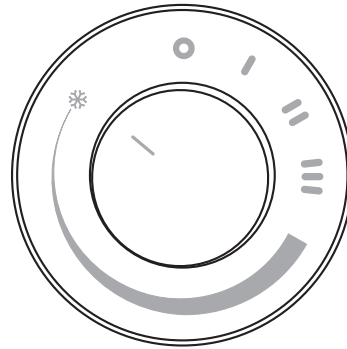

fig. 6
- To activate FROST-PROTECTION function, turn the knob so that reference mark "I" is aligned with the "❄" symbol on the control panel (fig.6).